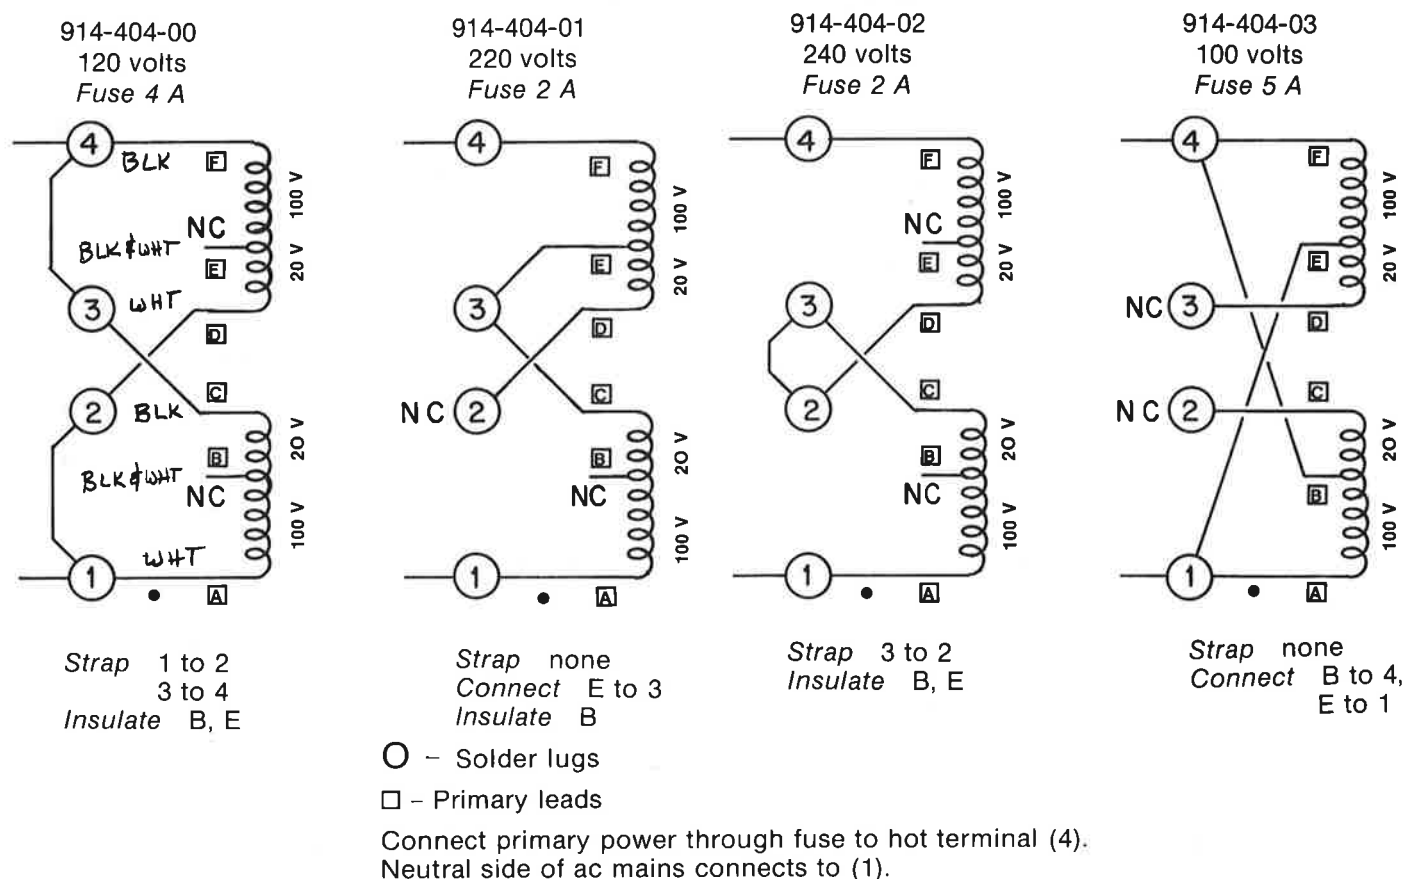

Fig. 11-1. Transformer Connections.
- 11.1 Alternate Line Voltages.** Maximum utility from the Apt 1 requires a good match to the prevailing mains voltage. The transformer has been wired for the voltage stamped on the rear panel near the line cord; if a different nominal voltage is required, the transformer connections should be changed according to Fig. 11-1.
Remove the top cover as described in Section 6.2. Remove the two number 8 nuts which anchor the transformer's fish paper cover at the right channel end. Raising the fish paper will reveal a four-lug terminal strip at the left channel end of the transformer. The lugs in Fig. 11-1 are numbered from the front of the amplifier to the rear. The 4.7 nF capacitor should always be connected from the hot to the neutral power input wire.